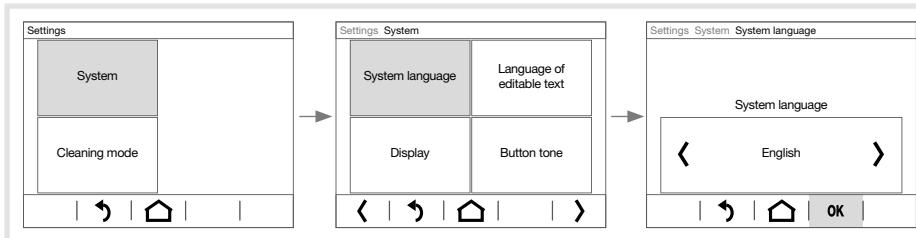

Figure 5: Example of setting the system language
- Press control surface for the parameter required. The display changes to another page where you must select once again, or it changes directly to the setting of the parameter (Figure 5).
- With **-/+** decrease/increase the parameter value, with **>/<** scroll to a preset value (Figure 5) or with **ON** / **OFF** activate/deactivate the parameter (Table 1).